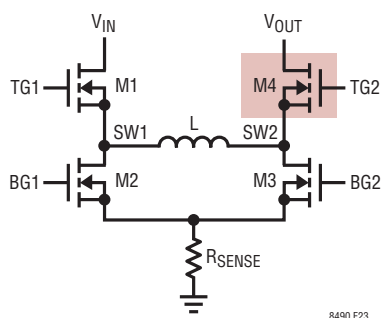

Figure 23. Simplified Diagram of Switches
1. **AUTOMATIC CCM/DCM MODE SWITCHING:** Very large inductor current ripple can lead the LT8490 to operate at high currents while still in DCM. In this case, the M4 switch (highlighted in Figure 23) can become hot due to the battery charging current flowing through the body diode of this device.